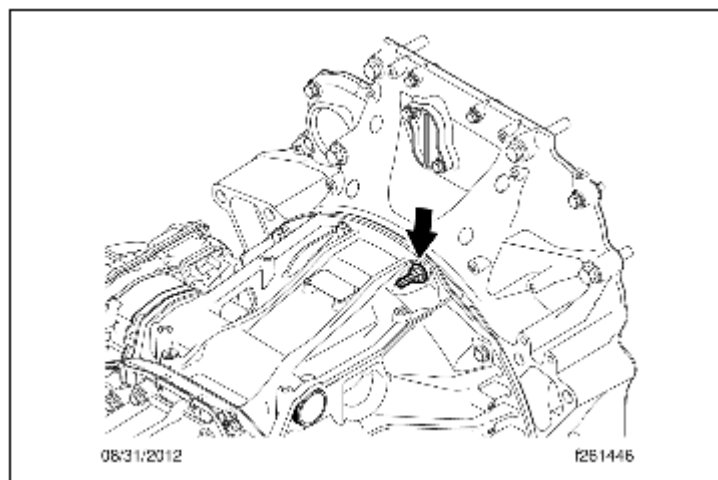

Fig. 5, Threaded Stud Location
3. Apply medium-strength thread locker to the fasteners that attach the flywheel housing to the clutch housing, or use new fasteners with pre-applied locking compound. Install the fasteners, and using a star pattern, tighten them finger-tight. Then, using the same star pattern, tighten the capscrews 45 to 53 lbf·ft (61 to 72 N·m), and the threaded stud 35 to 45 lbf·ft (47 to 61 N·m). See Fig. 5 .